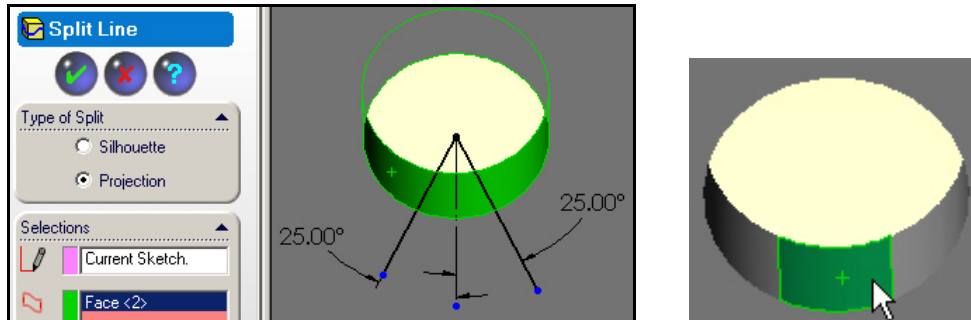

Figure 8 Creating a bolt bearing surface
- Select **Insert** → **Curve** → **Split Line** and pick the cylinder of the first bolt hole, **OK**. That creates a new load bearing surface (Figure 8) that could be restrained and/or control the mesh.